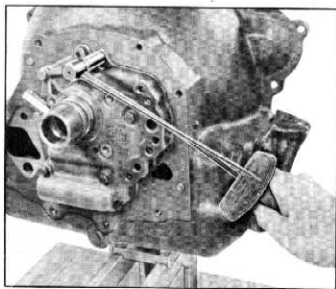

Fig. 120—Tightening Valve Body Attaching Bolts
- Install valve body over guide pins and install attaching bolts tightening to ten ft. lbs. torque (fig. 120) with the exception of the bolt over the pressure regulator valve. This bolt should be torqued to eight ft. lbs.